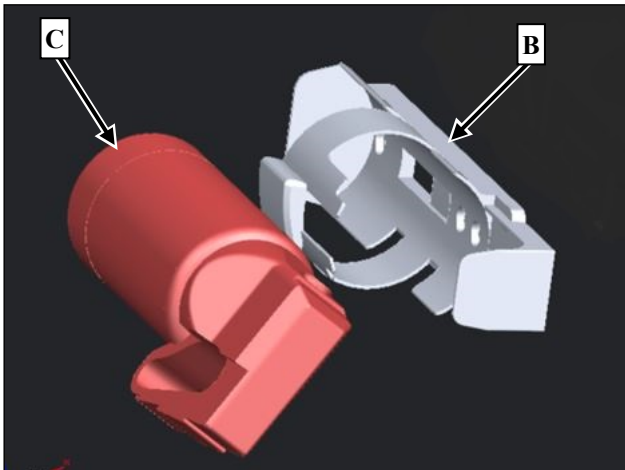

Figure 3
7. Check whether the fire extinguisher holder (**B**) at the driver's seat and fire extinguisher (**C**) are present (**figure 3**).